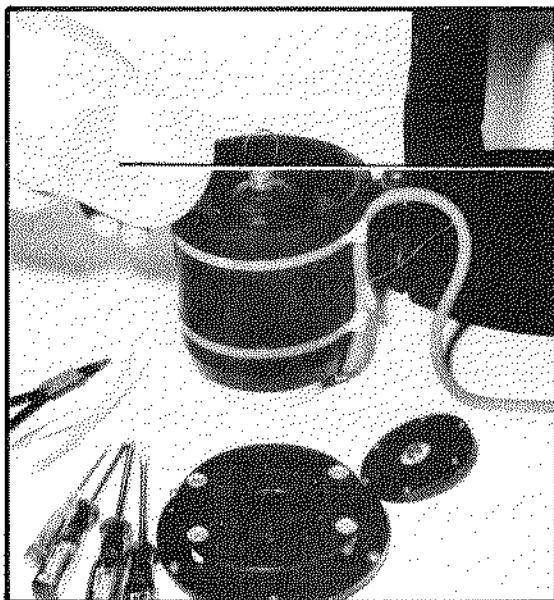

Fig. 7-2:
- Moisten the suction cap and press it centred onto the calotte of the gyrosphere (cf. Fig. 7-2).